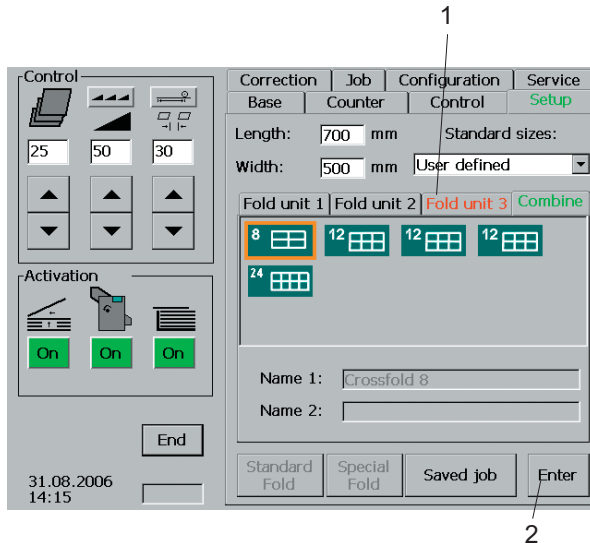

Fig. 22 Fold symbols for crossfold
1. Touch the *Combine* tab (Fig. 22/1) (script colour changes).
3. Touch the *ENTER* key (Fig. 22/2). This command activates the automatic setting.